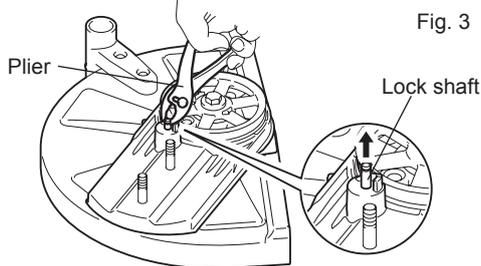

Fig. 3
- Pick up the lock shaft with a slotted screwdriver or a plier. (Fig. 3)